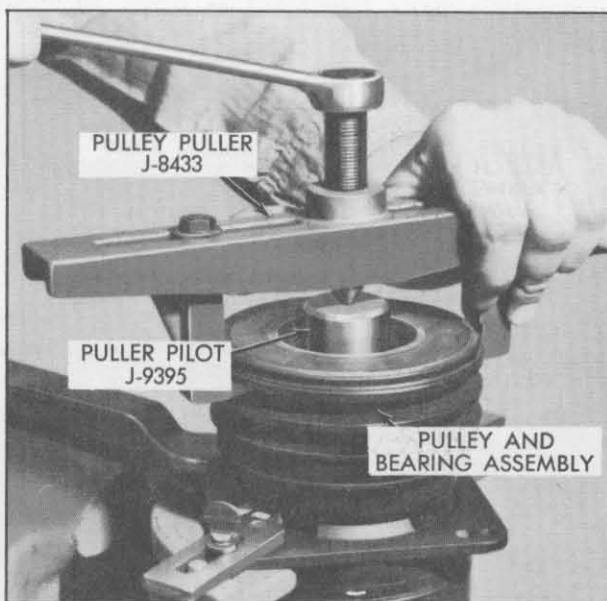

Fig. 1-62 Removing Pulley and Bearing Assembly
5. Remove pulley and bearing assembly using Pulley Puller, J-8433, Fig. 1-62.